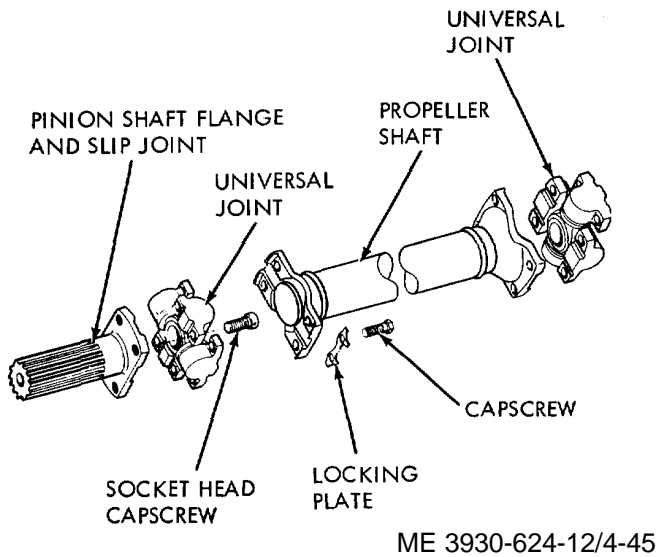

Figure 4-45. Universal joint and propeller shaft.
(1) Remove wires and socket head capscrows holding universal joints to the pinion shaft flange and slip joint. Refer to figure 4-45.